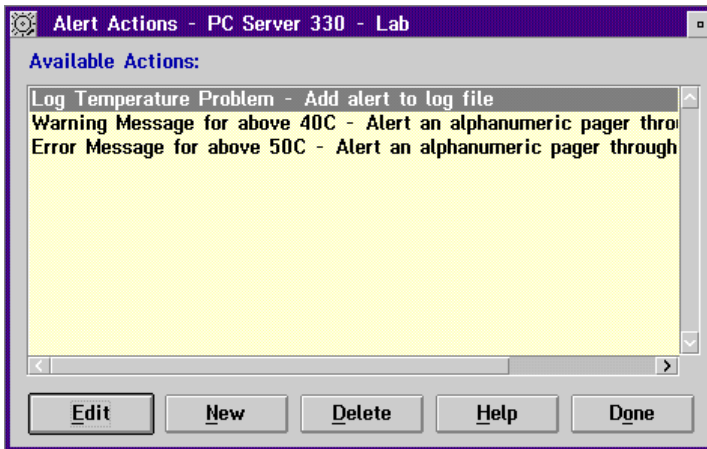

Figure 10: Alert Actions Defined
6. Add a new action “Log Temperature Problem” and set the action to **Add Alert to Log File**. Figure 10 shows the three profiles now bound to these actions.